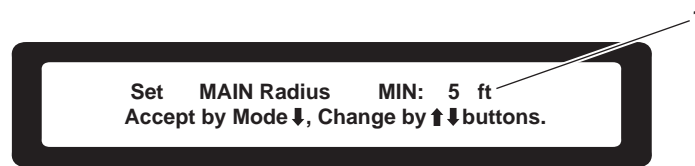

Figure 42. Minimum Radius Alarm Setting Screen
5. Press the MODE button (figure 17, item 3) and the down arrow button (figure 17, item 4) on the LMI receiver panel (figure 17, item 2) to reach the minimum radius alarm setting screen (figure 42).
6. Press the down arrow button (figure 17, item 4) or the up arrow button (figure 17, item 5) on the LMI receiver panel (figure 17, item 2) until the readout (figure 42, item 1) displays the radius value desired.